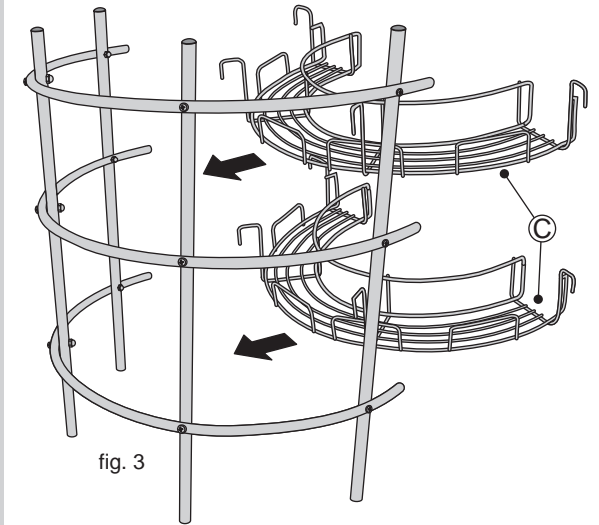

fig. 3
1. Carefully locate the Trays **C** onto the unit. See fig. 3.